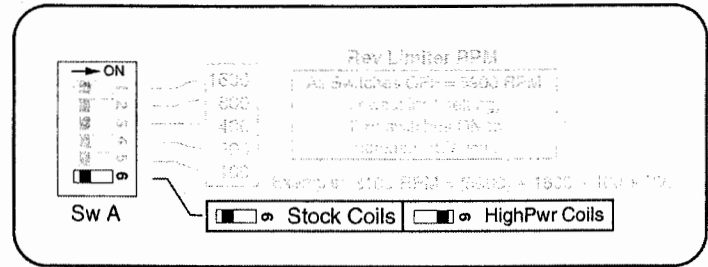

Figure 4
**Curve Selection Overview:** The T3 Ignition has four built-in advance curves. The curve you select must be properly suited to the engine configuration and how you ride your boat. **Do not assume that the curve with the more advanced timing is the best. Selecting a curve with more timing can lead to a large engine repair bill. Please be careful!. See Figure 4 for information on selecting the correct advance curve.**
Figure 4 shows the selection choices available for the Coil Settings (Switch Block A, switch 6).